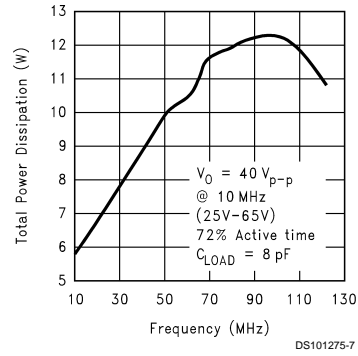

FIGURE 6. Power Dissipation vs Frequency
Figure 6 shows that total power dissipation of the LM2413 vs. Frequency when all three channels of the device are driving an 8 pF load. Typically the active time is about 72% of the total time for one frame. Worst-case power dissipation is when a one on, one off pixel is displayed over the active time of the video input. This is the condition used to measure the total power dissipation of the LM2413 at different input frequencies. Figure 6 gives all the information a monitor designed normally needs for worst case power dissipation.
3. Subtract the 0.6W from the power dissipation from Figure 6. For 100 MHz this would be 12.4 – 0.6 = 11.8W.
The LM2413 case temperature must be maintained below 100°C. If the maximum expected ambient temperature is 70°C and the maximum power dissipation is 12.2W (Figure 6) then a maximum heat sink thermal resistance can be calculated: